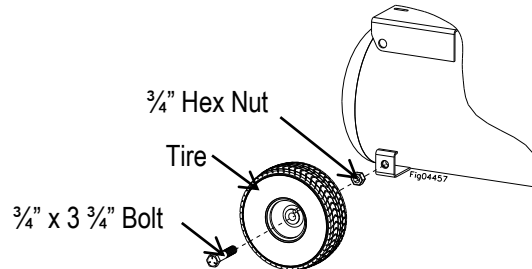
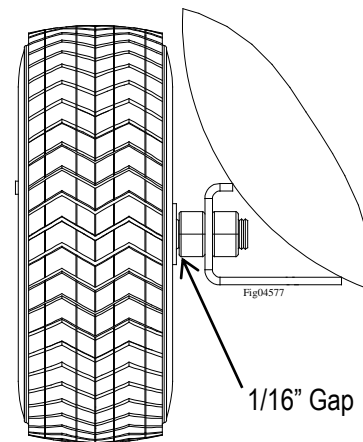

Figure 3
Figure 4
1. Assemble tires on air compressor as shown. (Figure 3) Allow 1/16" movement between the hex nut and wheel. (Figure 4)